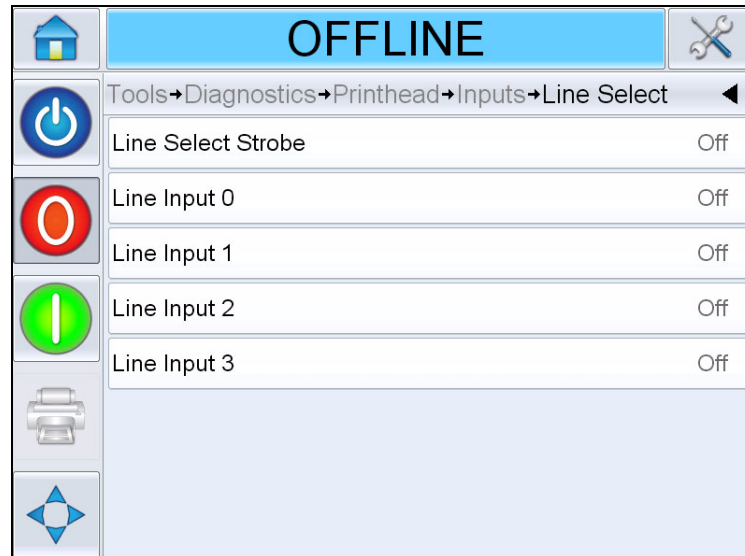

Figure 4-12: Input Line Select Page
- **Line Select:** If the *Line Select* is enabled on the controller, the user can assign a job to the required line. Line Select allows the user to view the current status of the inputs being used for the Line Select feature of the printer (see Figure 4-12).